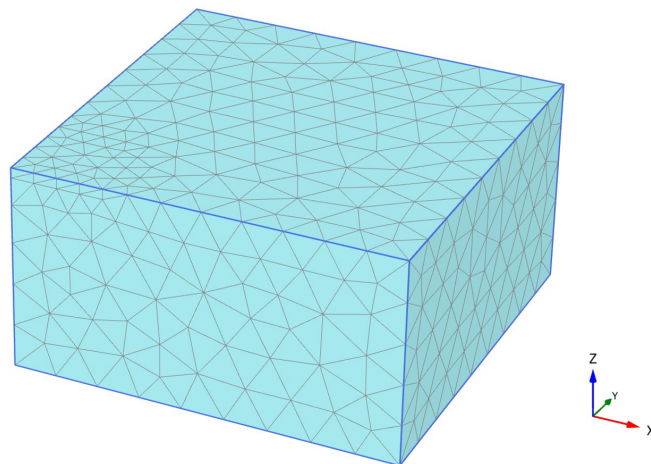

Figure 1-13: Generated mesh in the Output window
- 6 After the mesh is generated, click the **View mesh** button . A new window is opened displaying the generated mesh (see Figure 1-13 \(p. 20\)).